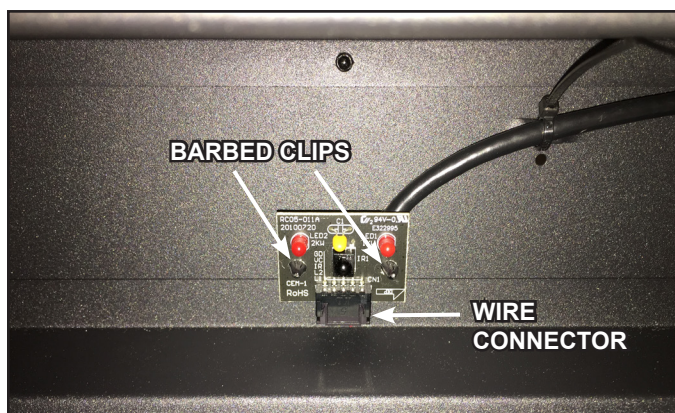

Figure 15 Remote Receiver Replacement
6. The remote receiver is positioned in the center of the appliance behind the plastic diffuser panel. Using a pliers, compress each barbed clip while lifting the remote receiver board evenly to disengage it from the clip. See Figure 15.
7. Disconnect the wiring harness from the top of the receiver. See Figure 15.
8. Securely reconnect the wiring harness to the new remote receiver. See Figure 15
9. Carefully align the new remote receiver board to the barbed clips and push in place. See Figure 15.